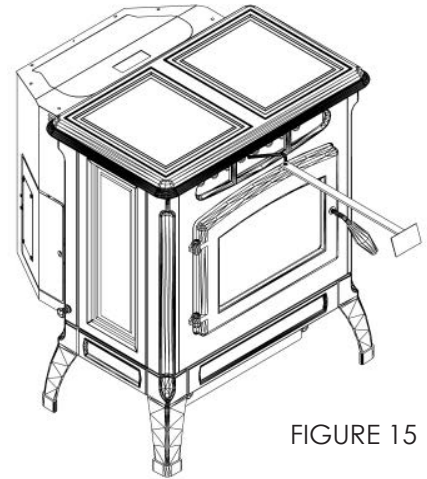

FIGURE 15
- With the door closed clean heat exchanger tubes. (See "CLEANING" and Figure 15).
- a. Heat Exchange Tubes – Your stove is designed with a built-in heat exchange tube cleaner. This should be used every two or three days to remove accumulated ash on the tubes, which reduces heat transfer on this furnace. Insert the handle end (with hole) of the cleaning tool onto the cleaning rod (refer to figure 15). The cleaner rod is located in the grill above the stove door. Move the cleaner rod back and forth several times to clean the heat exchanger tubes. Be sure to leave tube cleaner at the rear of the stove.